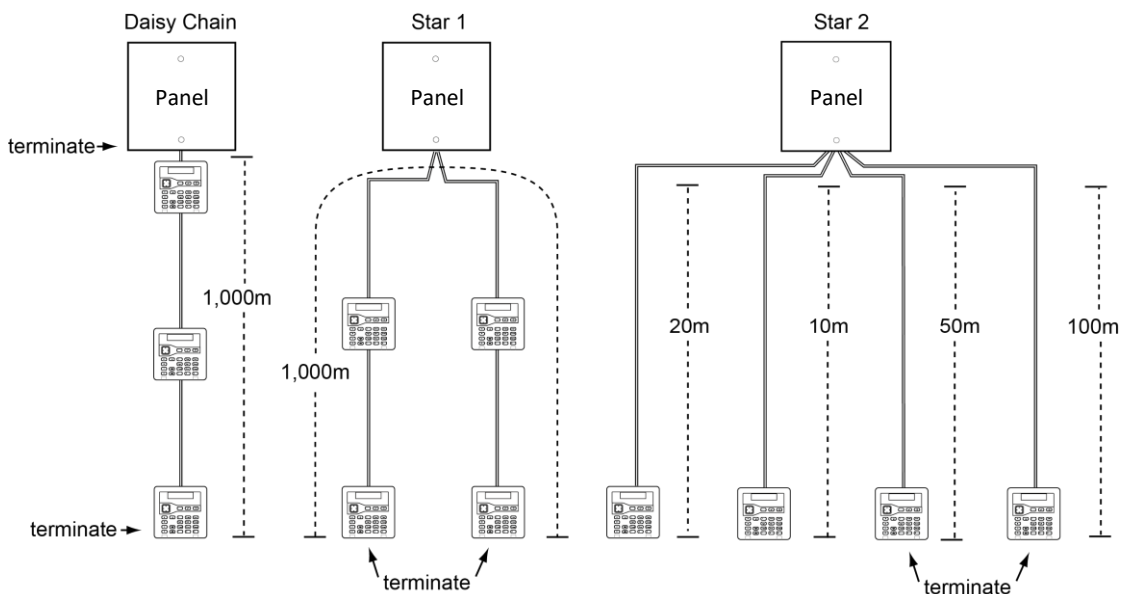

Figure 5: Bus termination
You can connect devices either in daisy chain (serially), or in star (parallel) configuration at the panel connector (Figure 5, page 19). For star configurations, the cable length from panel to the most distant keypad should be kept short and should not exceed 100m.
In a daisy-chain configuration, fit the termination jumpers in the devices at each end of the chain. In a star configuration, terminate at the two devices on the ends of the longest cables (Figure 5).
You can connect up to 10 wired detectors (0 to 9) to the panel using the Fully-Supervised Loop (FSL), 4-wire Closed Circuit (CC) or 2-wire CC wiring method (Figure 5, page 19). You must use the same method for all detectors. If 4-wire CC is used, the number of zones is halved and are numbered 1-5.